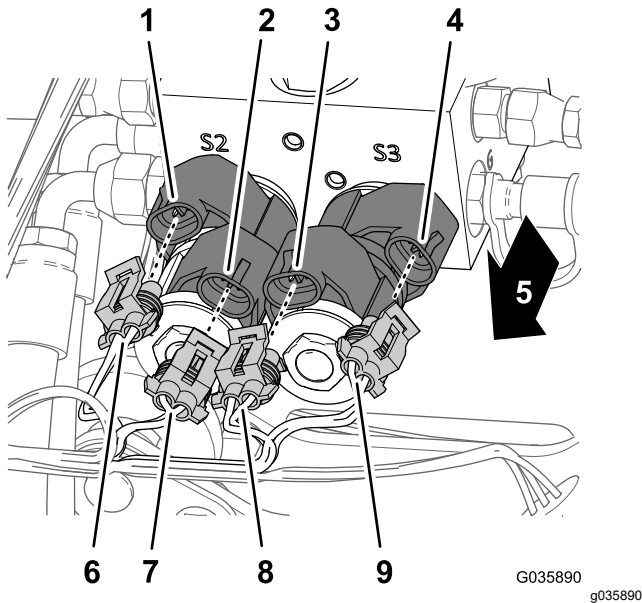

Figure 25
1. At the front of the lift-cylinder manifold, connect the 4 electrical connectors of the wire harness for the sonic boom to the solenoids for controlling boom lift as shown in Figure 25.